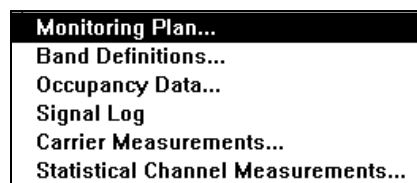

Figure 9-1: Export Data Selection List
1. Click on **F**ile on the main Menu Bar to open the **File Menu** and then select **Export Data** to open the Export Data selection list (Figure 9-1).